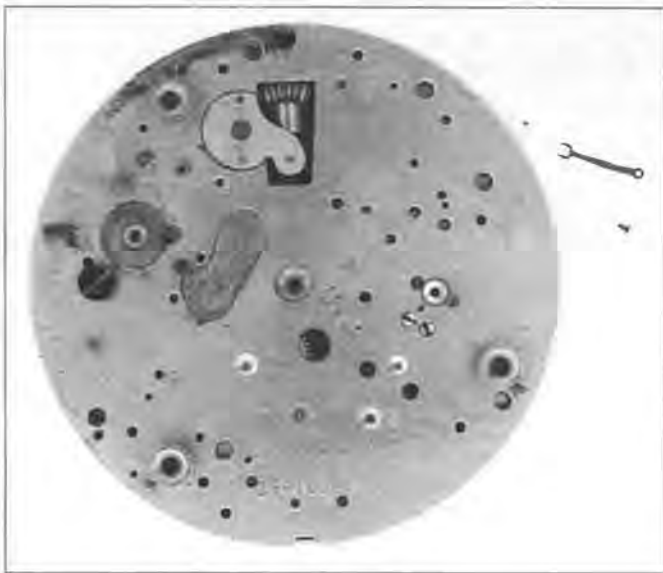

Figure 16
Step 17. Remove the seconds wheel friction spring and screw. Figure 16 shows the spring and its screw after removal.